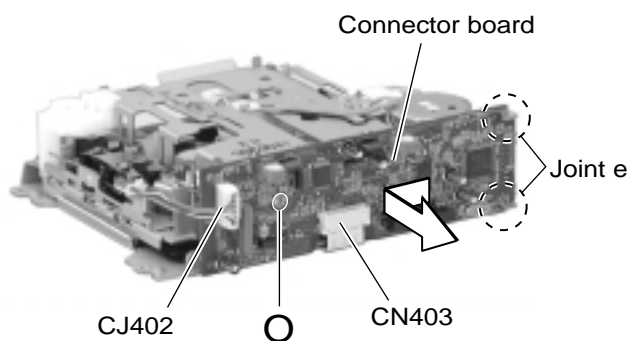

Fig.16
■ Removing the connector board (See Fig.16)